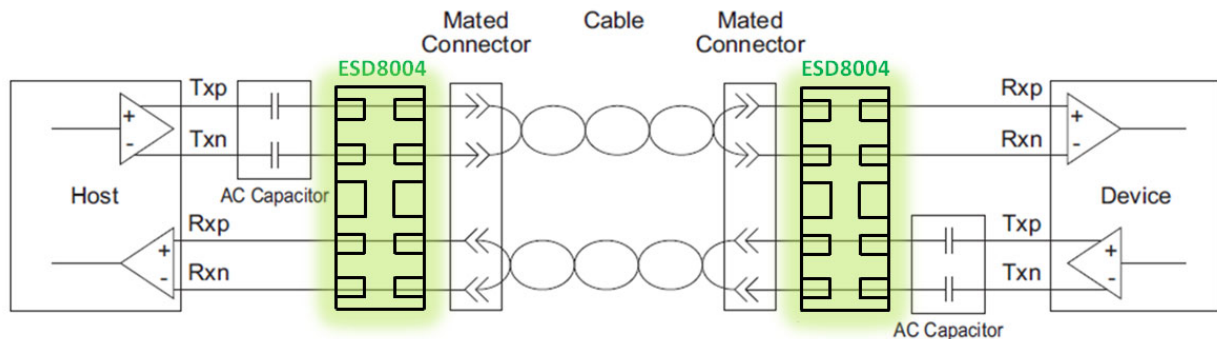

Figure 15. USB 3.0/3.1 Connection Diagram
- ◆ In USB 3.0 applications, the ESD protection device should be placed between the AC coupling capacitors and the I/O connector on the TX differential lanes as shown in Figure 15. In this configuration, no DC current can flow through the ESD protection device preventing any potential